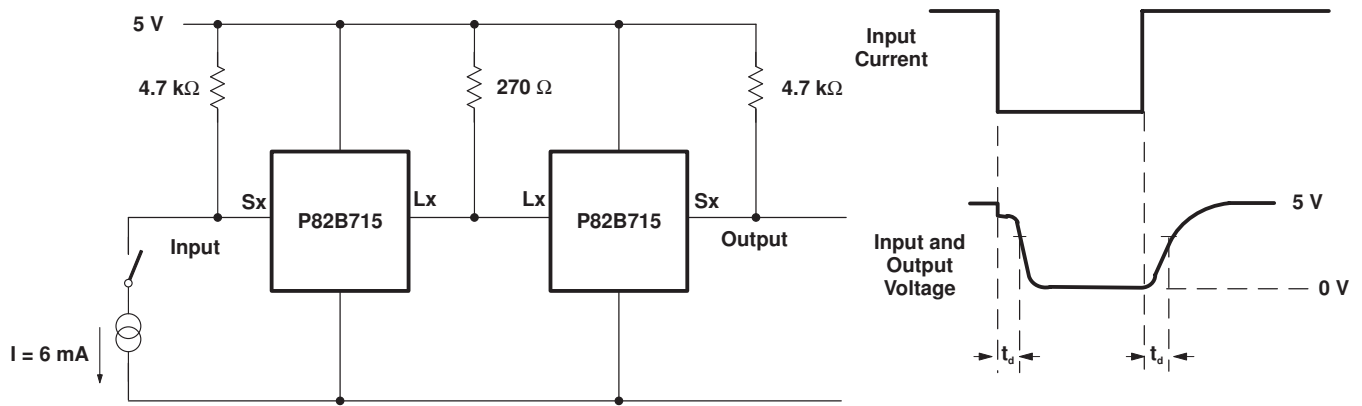

Figure 2. Test Circuit for Delay Times
| $t_{\text{rise/fall}}$ | Delay time to V_{L_x} voltage crossing $V_{CC}/2$ for input drive current step I_{S_x} at S_x ⁽¹⁾ (see Figure 2) | I_{S_x} I_{S_y} | V_{L_x} V_{L_y} | R_{L_x} pullup = 270 Ω | 250 | ns |
- (1) A conventional input-output delay is not observed in the S_x/L_x voltage waveforms, because the input and output pins are internally tied with a 30- Ω resistor so they show equal logic voltage levels to within 100 mV. When connected in an I²C system, an S_x/S_y input pin cannot rise/fall until the buffered bus load at the output pin has been driven by the internal amplifier. This test measures the bus propagation delay caused to falling or rising voltages at the L_x/L_y output (as well as the S_x/S_y input) by the amplifier's response time. The figure given is measured with a drive current as shown in Figure 2. Because this is a dynamic bus test in which a corresponding bus driving IC has an output voltage well above 0.4 V, 6 mA is used instead of the static 3 mA.
- (2) The signal path L_x to S_x and L_y to S_y is passive via the internal 30- Ω resistor. There is no amplifier involved and essentially no signal propagation delay.